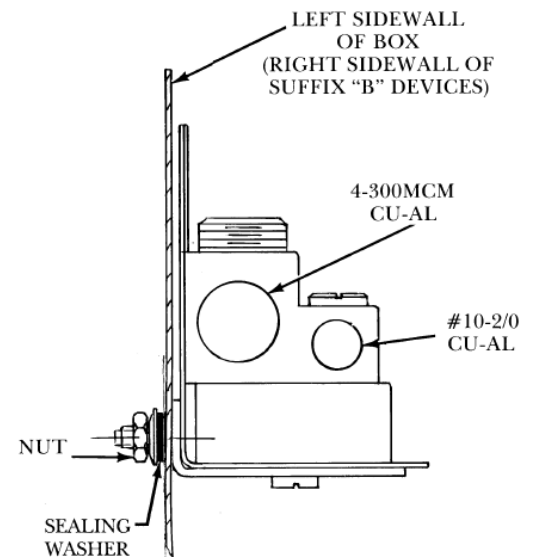

Figure 2 – Typical Installation of TNIA64C Neutral Kit
Step 2. Mount neutral block to enclosure as shown in Figure 2. Torque fasteners to 20-24 in-lbs.